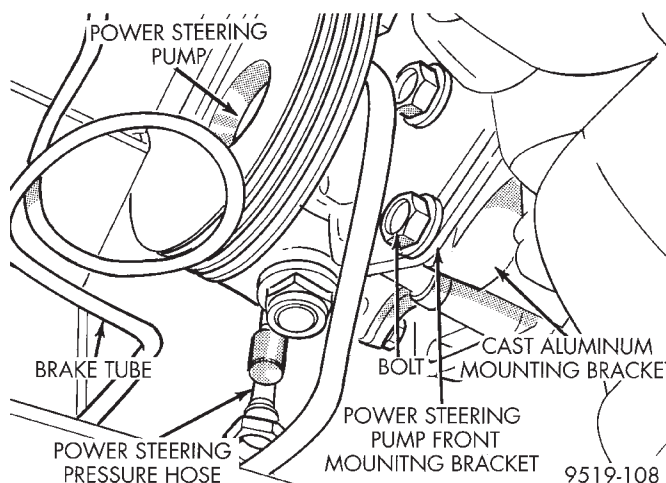

Fig. 25 Power Steering Pump Front Bracket Attachment
- (8) Remove bolt at adjustment slot, (Fig. 25) attaching front power steering pump mounting bracket to cast aluminum accessory drive bracket on engine.
(1) Install power steering pump and mounting bracket as an assembly back in vehicle, using reverse order of removal.
(2) Install power steering pump and front bracket on the cast aluminum accessory drive engine bracket (Fig. 25). Then loosely install the bolt at adjusting slot (Fig. 25) mounting pump bracket to accessory drive bracket.